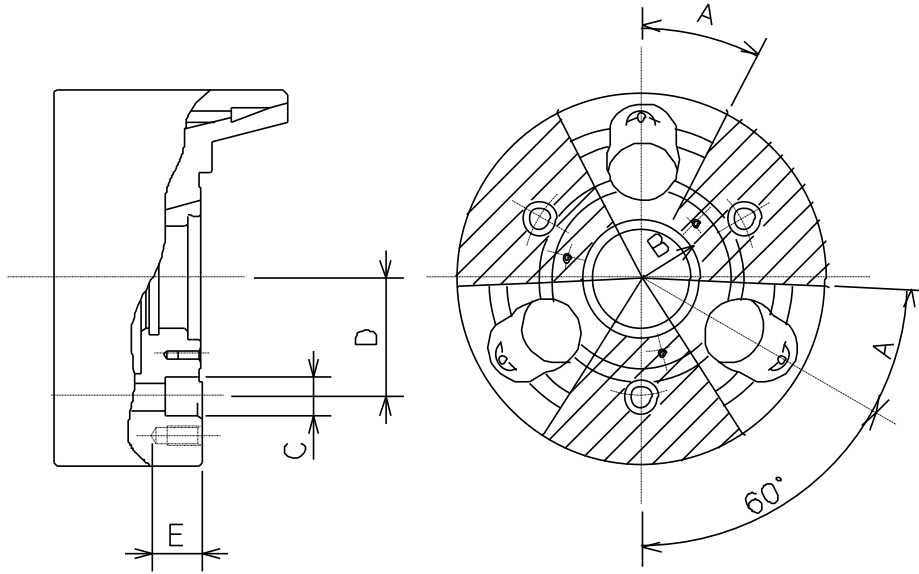

Fig.7
- In the case of attaching the locator and the jig on the chuck body surface, tap or drill a hole in the additional process range specified in Fig.7.